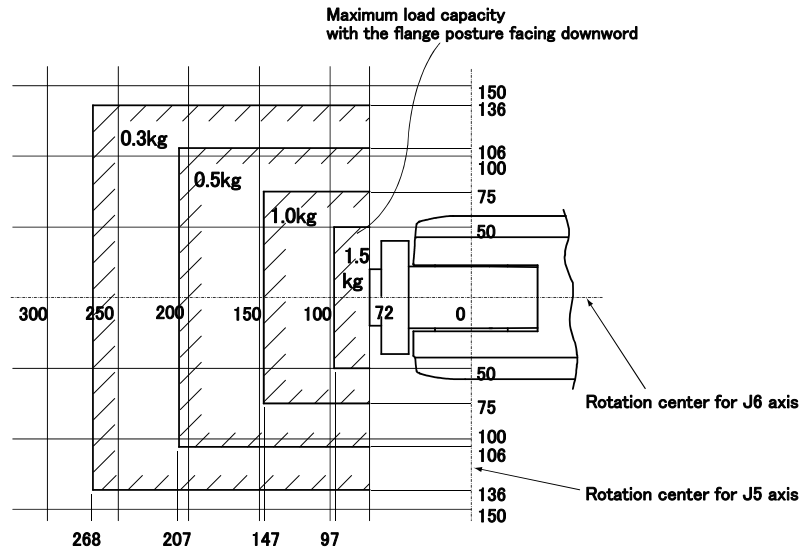
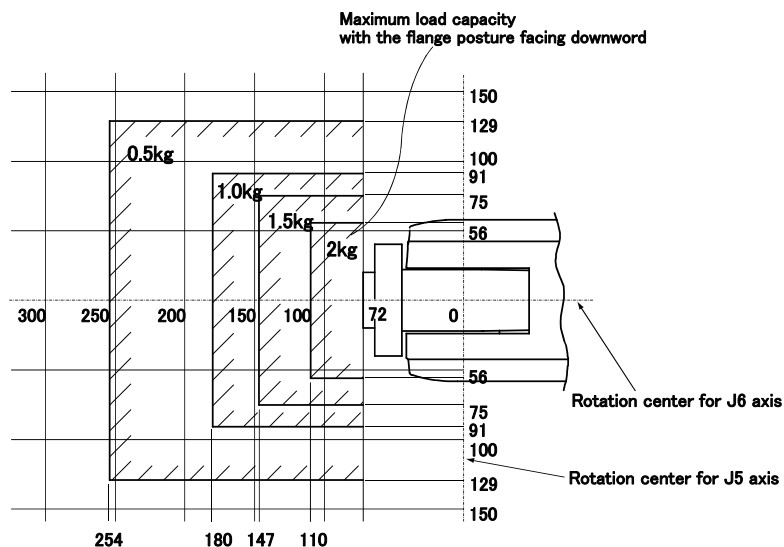

Fig.2-1 : Position of center of gravity for loads (for loads with comparatively small volume) : RV-1A/1AC-SB
Fig.2-2 : Position of center of gravity for loads (for loads with comparatively small volume) : RV-2AJ/2AJC-SB
- (1) The tooling should have the value less or equal than the smaller of the tolerable inertia and the tolerable moment found in Page 5, "Table 2-1 : Tab Standard specifications of robot"
- (2) Fig. 2-1 and Fig. 2-2 shows the distribution dimensions for the center of gravity in the case where the volume of the load is relatively small. Use this figure as a reference when designing the tooling.
- (3) When the load is not mass, but force, you should design the tooling so that it does not exceed the value for allowable moment described in Page 5, "Table 2-1 : Tab Standard specifications of robot"